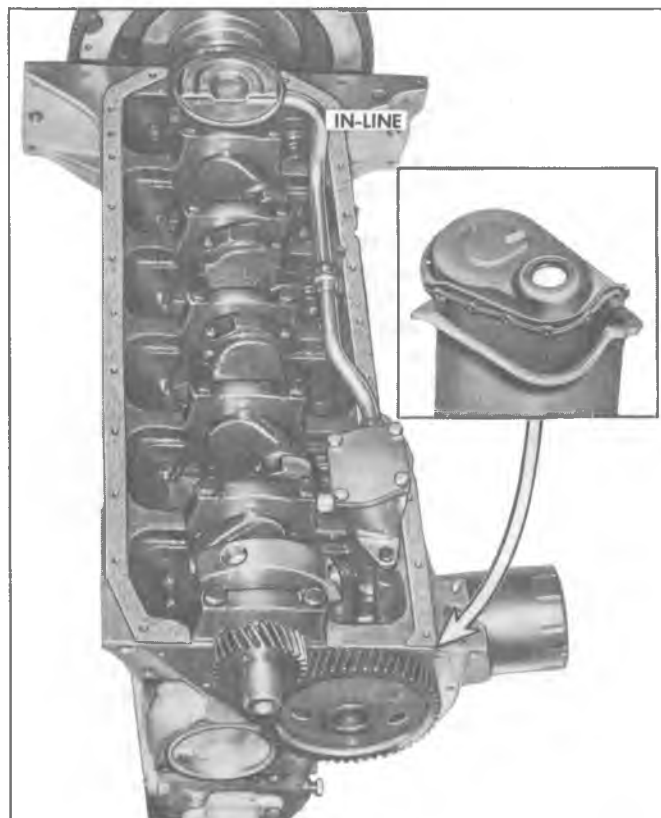

Fig. 4L—Oil Pan Gasket and Seal Location
4. Install new side gaskets on cylinder block (fig. 4L).